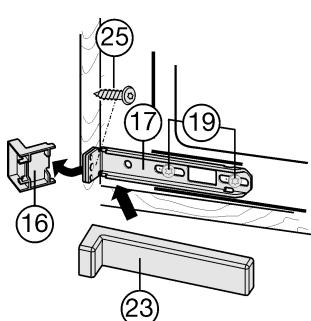

Fig. 18
- ▶ Loosen the screws Fig. 18 (19) a little.
- ▶ Tightly screw the bottom mounting bracket Fig. 18 (17) to the unit wall using Spax screw Fig. 18 (25) ø4x19.
- ▶ Break off the projecting end of the cover Fig. 18 (16). It is no longer required.
- ▶ Tighten the screws Fig. 18 (19).
- ▶ Put the cover Fig. 18 (23) on the bottom mounting bracket Fig. 18 (17).